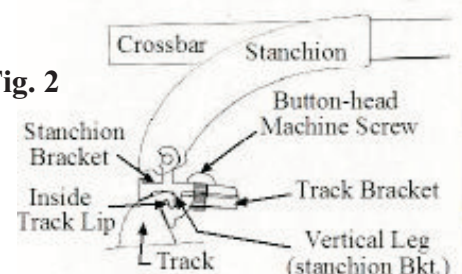

Fig. 2
3. Assemble Track Brackets to Stanchion Brackets by inserting 1/4"-20 x 1/2" Button Head screw through hole in Stanchion Bracket into tapped hole in Track Bracket approximately 1-2 turns (see Fig. 2). Position stanchion/crossbar assemblies on tracks, aligning vertical leg of Stanchion Bracket snugly to inside of track. Loosening screw if necessary, hook Track Bracket under inside lip of track and tighten just enough to keep Track Bracket in position under rail lip. Repeat for each Bracket assembly.